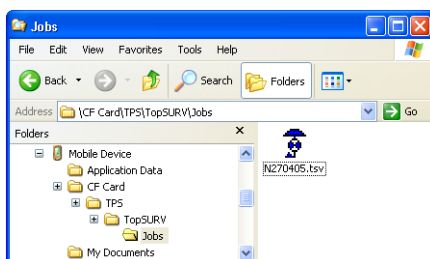

Figure 2-43. Selecting the Folder in the TPS Controller
1. Open Windows Explorer and click the *Mobile Device* folder. The right side of the window displays the contents of the Topcon Controller (Figure 2-43). Select the folder in the TPS Controller where the exported file will be saved, then select the desired file in the computer.